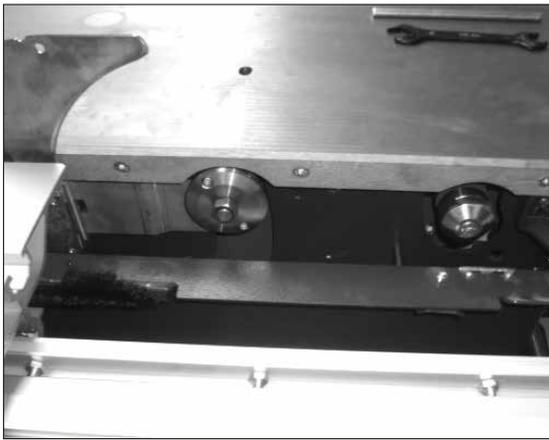

Fig.8
Push the sliding table to the rear and open the saw cover (fig.8). Raise the main sawblade to its highest position and put the key(3) into the saw arbor nut.